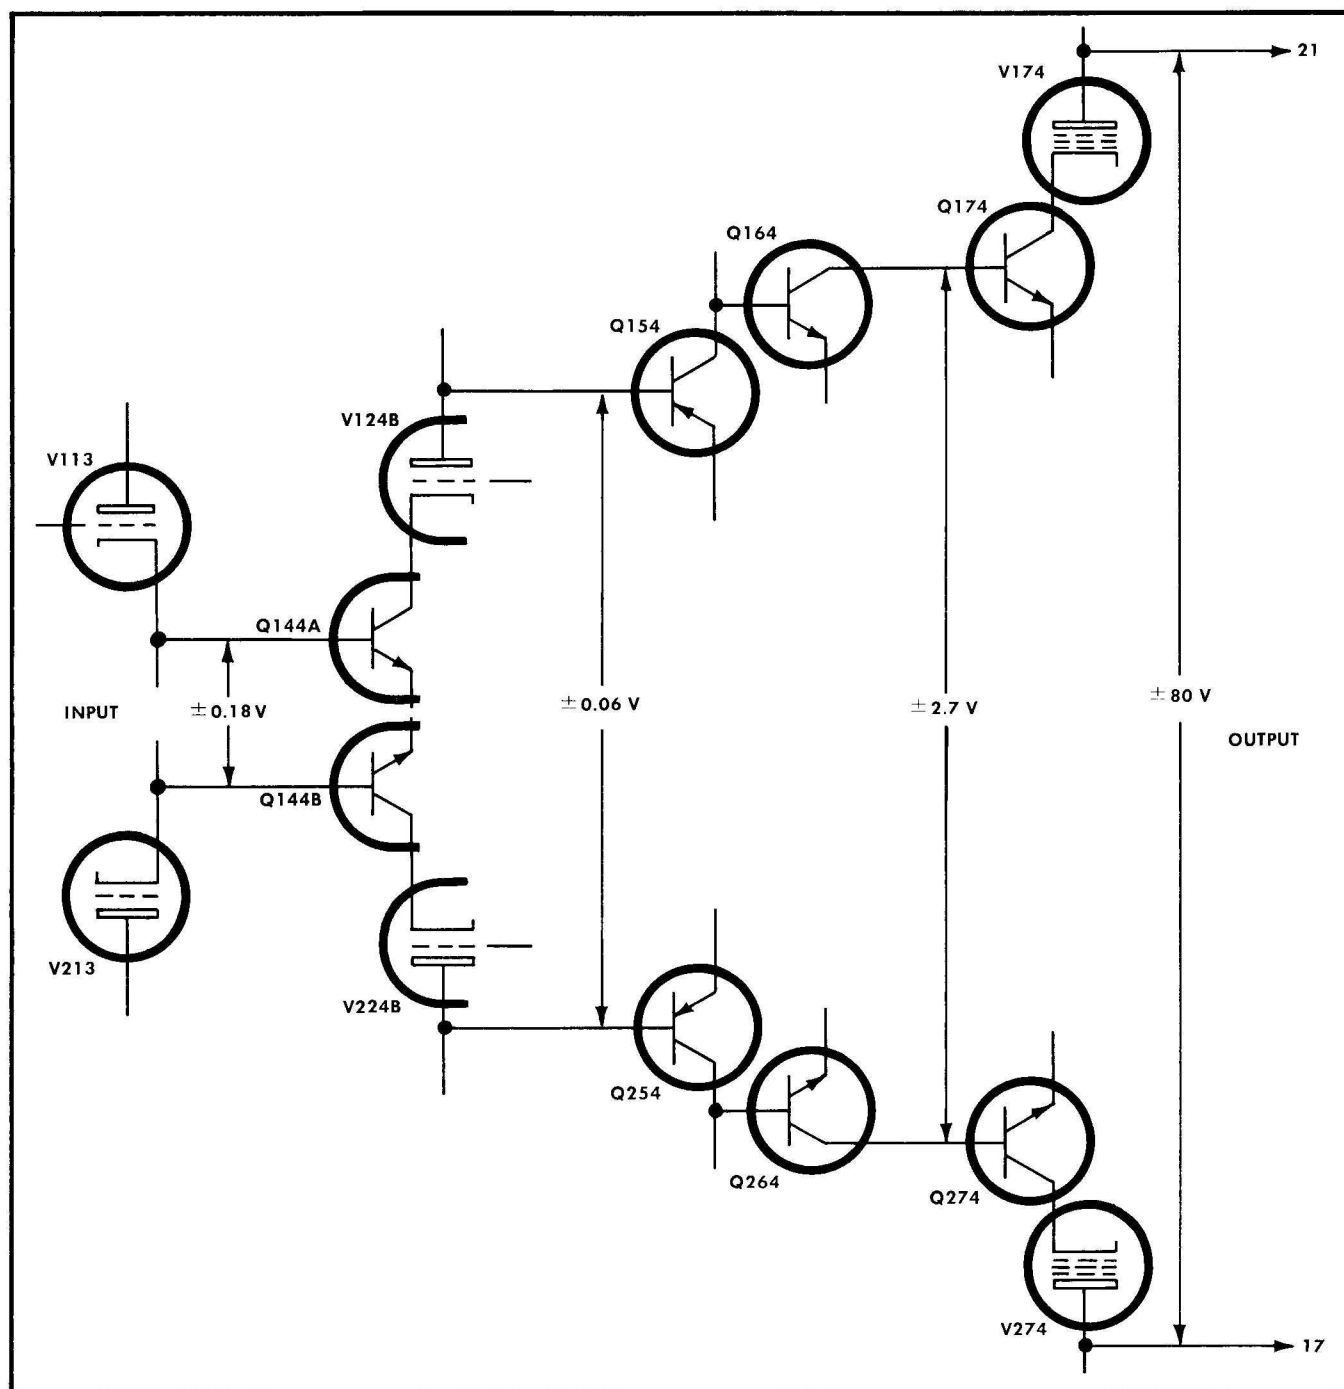

Fig. 4-5. Simplified schematic diagram showing dc balance voltage limits at various points which, if not exceeded, should position the trace on the crt.
2. Connect a dc voltmeter (starting from the input) between corresponding points in the amplifier as shown in Fig. 4-5 to determine the area where the imbalance originates. For example, if the voltmeter is connected between the cathodes of V113 and V213 and the reading is within the range indicated in the illustration, then this stage is properly dc balanced. It also means that the DIFF BAL, DC BAL and HEATER BAL controls are properly adjusted. If the voltmeter is connected between the plate of V124B and the plate of V224B and if the reading is greater than